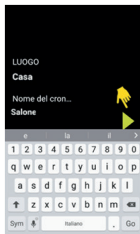

Fig.69A
12.2.4 Confermare premendo . Fig.69A - 69B